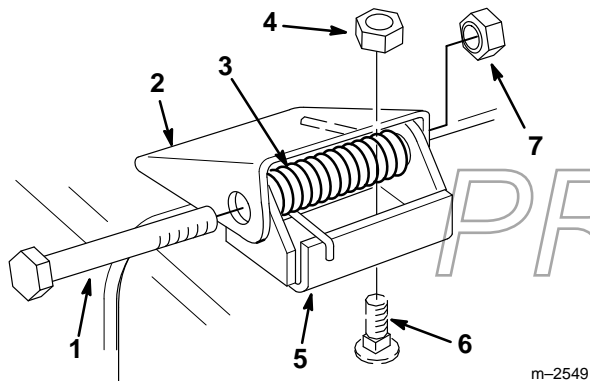

Figure 47
2. Remove the locknuts, bolts and springs holding the deflector mounts to the pivot brackets (Fig. 47).
3. If the pivot brackets need to be replaced, remove the carriage bolts and cone locknuts holding the old brackets to the top of the discharge opening, then install the replacement pivot brackets. Make sure the carriage bolt heads are on the inside of the cutting unit (Fig. 47).
4. Install the deflector mounts onto the pivot brackets with the bolts, springs and locknuts. Make sure the straight ends of the springs are positioned between the deflector mounts and the grass deflector (Fig. 47).
5. Tighten the locknuts until they contact the pivot brackets (Fig. 47).